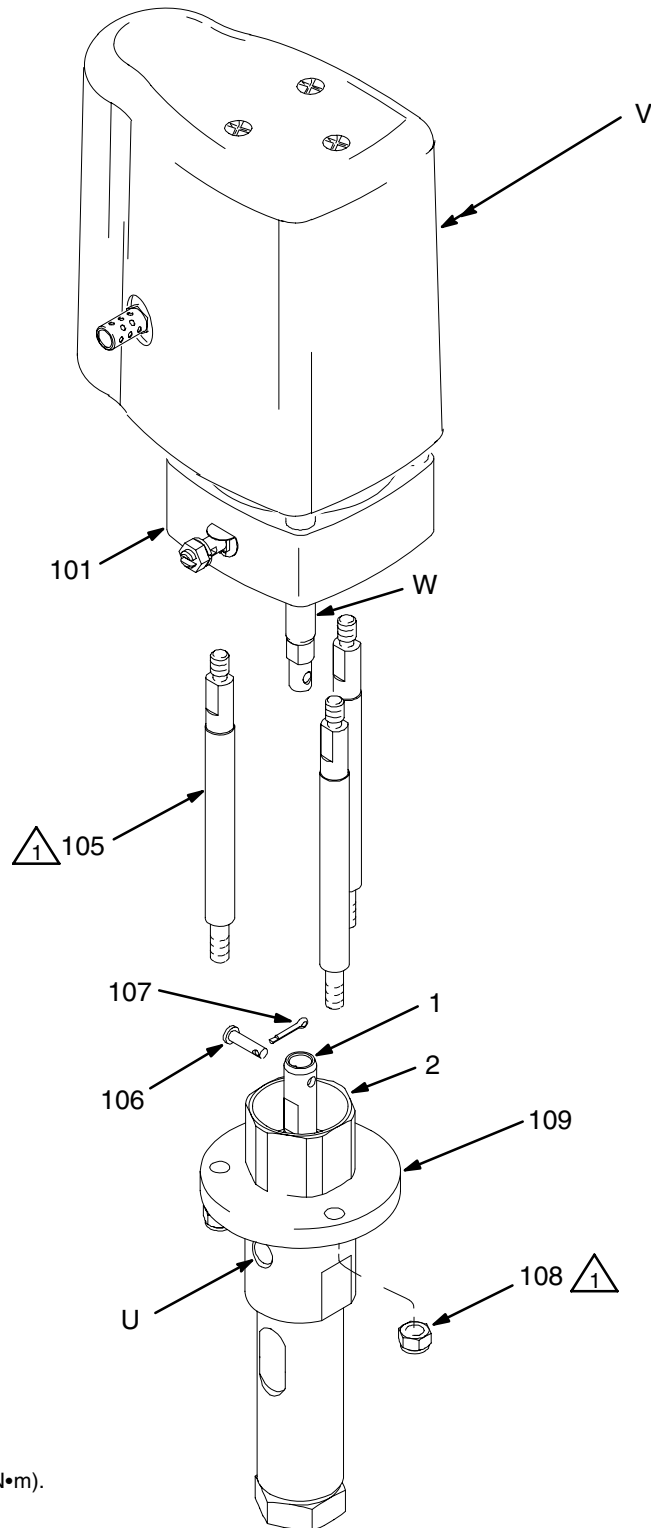

Fig. 3
1. Fig. 3. Flush pump, if possible. Stop pump at bottom of its stroke.
1. Fig. 3. Reconnect displacement pump (109) to motor (101) (see **CAUTION** at left). Orient pump's fluid outlet (U) to air inlet (V) as noted in step 4 under **Disconnecting the Displacement Pump**. Position displacement pump (109) on tie rods (105).
2. Insert clevis pin (106) through piston rod (W) and displacement rod (1). Install cotter pin (107).
3. Screw nuts (108) onto tie rods (105) and tighten.
4. Reconnect all hoses. Reconnect ground wire if disconnected. Fill wet cup (2) 1/3 full of Graco Throat Seal Liquid or compatible solvent.